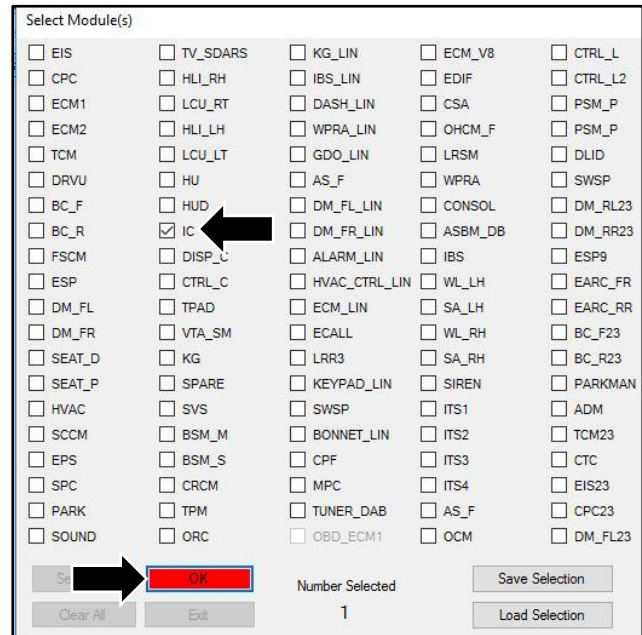

Figure 2
5. Select the "IC" module then click "OK" (refer to Figure 2).